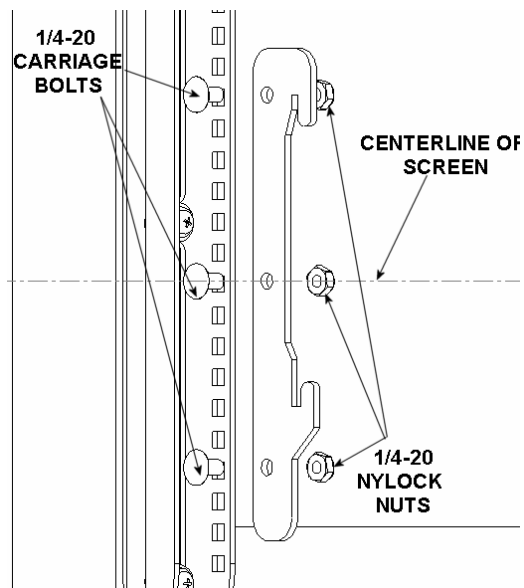

Figure 7. Attach Tilt Brackets
4. Attach brackets (20) with the center hole of the bracket assembly as close to the center line of the display as possible (see Figure 7), positioning the assembly with the knob side toward the outside of the display.